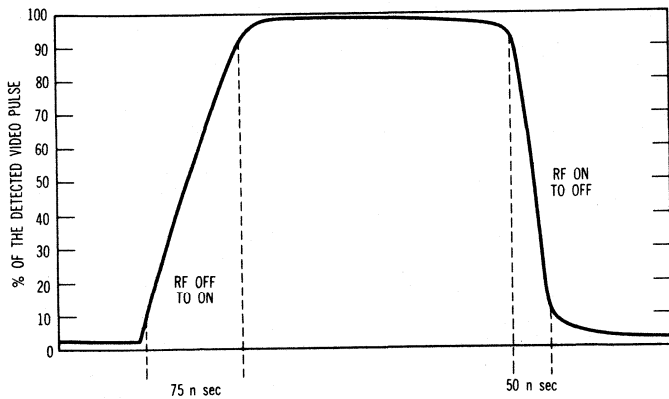
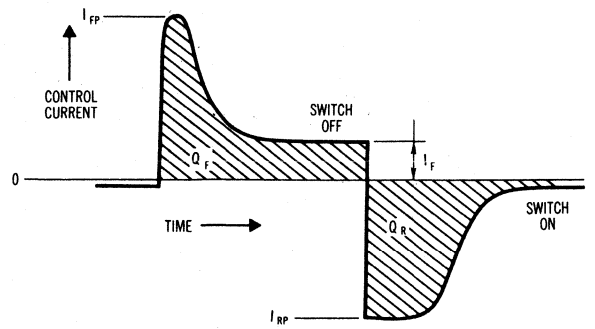

Figure 2. Typical RF switching characteristics
Figure 6. Control current pulse shape for fast switching
**Biasing for Fast Switching.** The rise and fall times of the RF envelope shown in Figure 2 depend on the attenuation levels at which the switch is considered to be ON or OFF, on the magnitude of the bias current, and on the bias pulse shape. Faster switching can be obtained by operating at the lowest possible forward bias current consistent with the necessary isolation level. Faster switching may also be obtained by suitable shaping of the bias current waveform as illustrated in Figure 6.